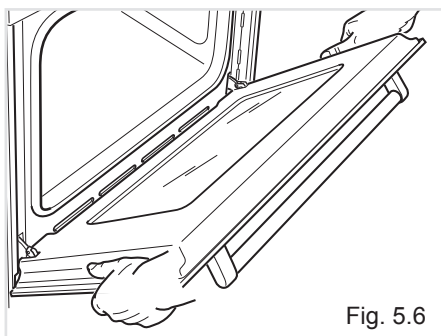

Fig. 5.6
- Hold the door as shown in fig. 5.6.
- Hold the door firmly (fig. 5.6).